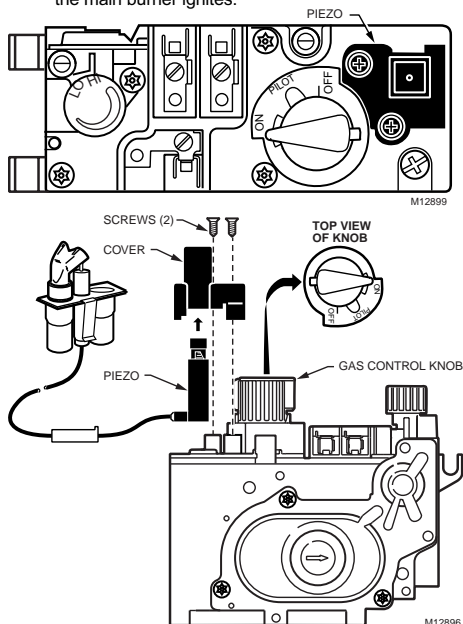

Fig. 1. Exploded view of the piezo assembly and pilot burner connection with VS8520 gas valve.
1. Turn the knob on the gas valve to the OFF position. See Fig. 1.